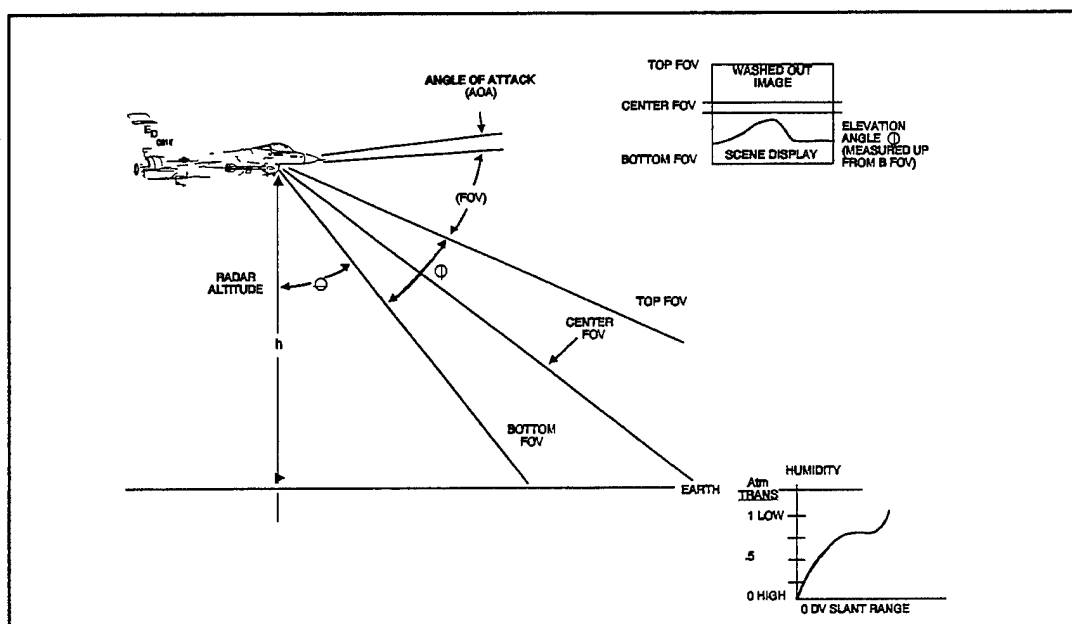

FIGURE 3.7 IRDS VIEWING DISTANCE
(6) IRDS Viewing Distance. Determining the effective IRDS viewing distance is a method used to evaluate the effects of atmospheric transmission (e.g., humidity) on system performance. As atmospheric transmission decreases (mostly corresponding to higher humidity levels) the contrast between objects at long ranges (the upper portion of the display) will decrease. Thus the upper portion of the screen will appear washed out (no scene detail) while the lower portion provides usable video. The effective IRDS viewing distance is defined as the range at which scene detail is lost. Using a flat earth assumption (see Figure 3.7) the IRDS viewing distance (D_v) is :